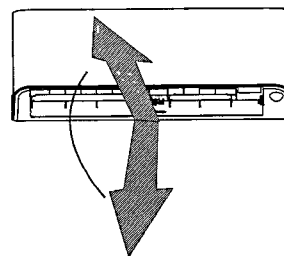

Fig. 14 —Up-Down Louver Position
1. Press **SWING ↓** (up-down airflow) on the remote control once to activate the louver. Each time you press **SWING ↓** the louver adjusts by 6 degrees. Press **SWING ↓** until the preferred direction is reached (see Fig. 14).